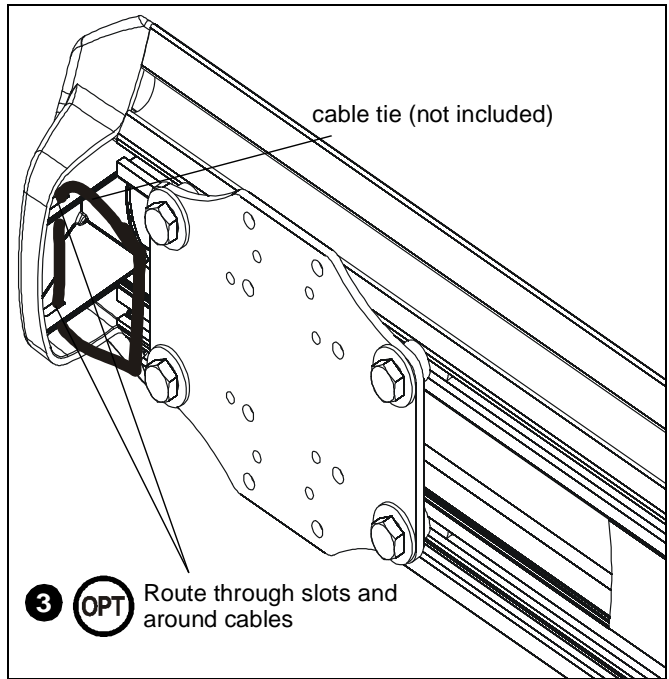

Figure 23
3. (Optional) Cables may be tied to inside of WM1XXS front cover using cable ties (not included). Route cables near front cover and wrap cable tie through slots on front cover and around cables. (See Figure 23)